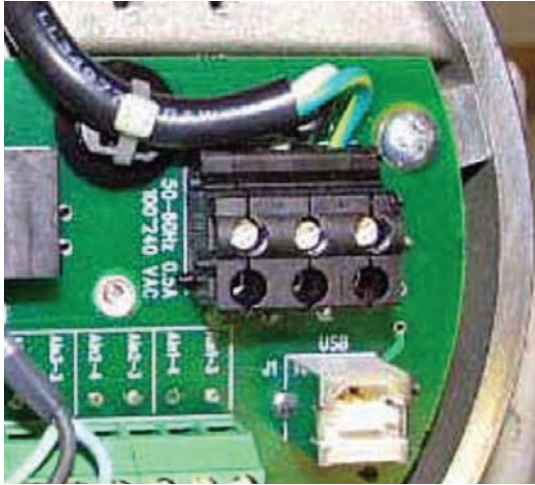

Figure 26: Power terminal block
- Run the AC power connections to the power terminal block shown in *Figure 26* below. It is recommended to use 12-18 AWG (3.3 - 0.82 mm2) power wiring.